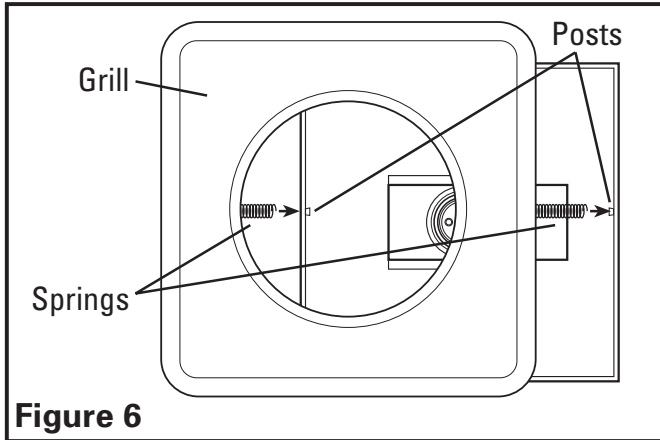

Figure 6
1. Remove grill from carton and attach springs from grill to posts on either side of housing (**Figure 6**).